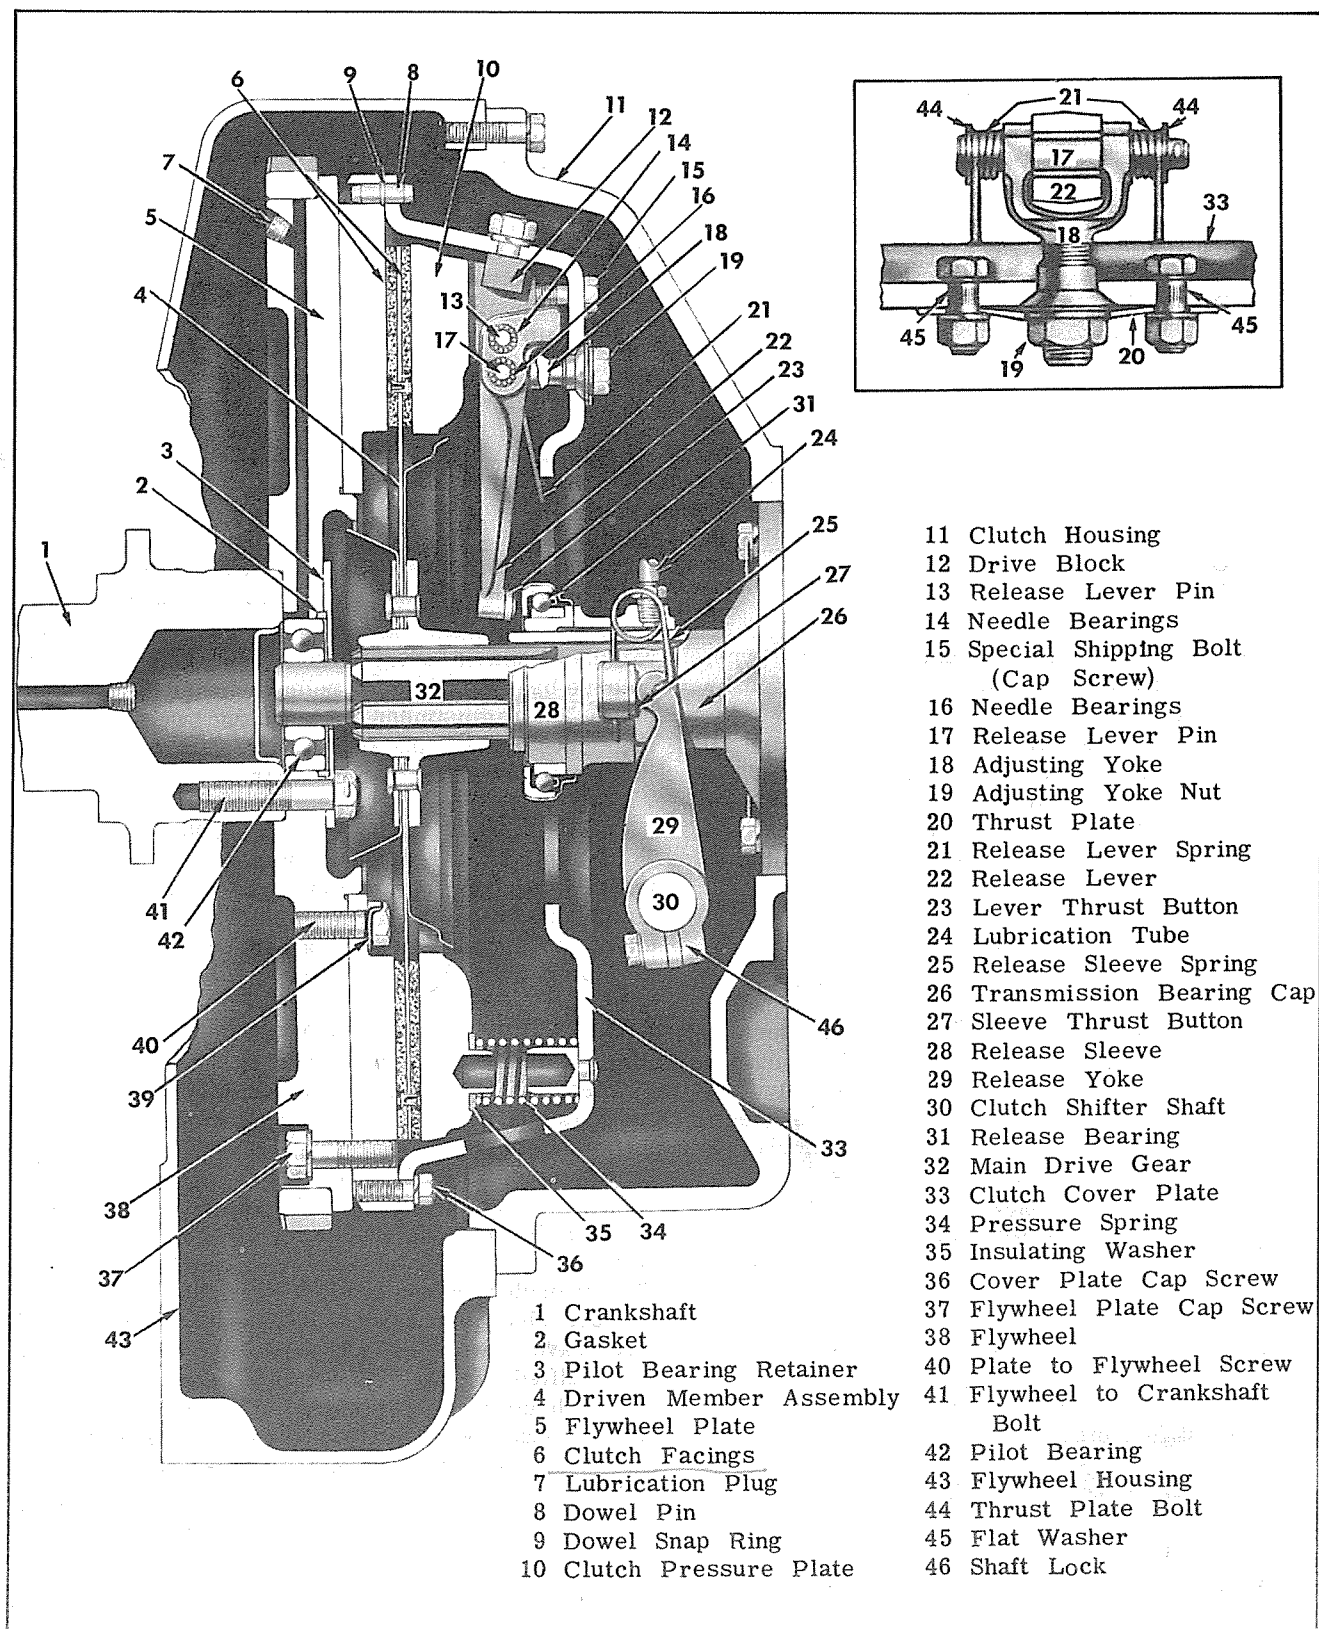
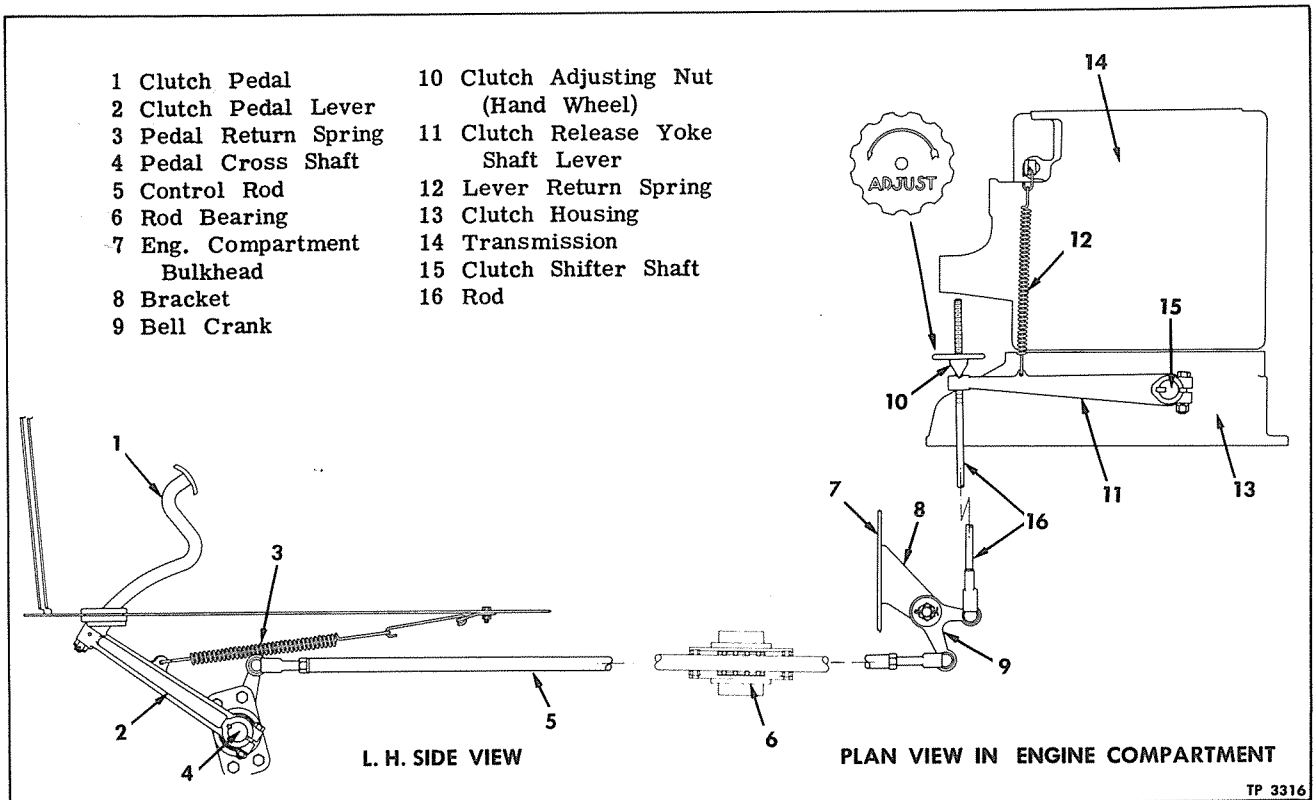

Figure 1—Sectional View of Clutch Assembly
Figure 2—Clutch Control Linkage
Clutch (fig. 1) is single plate dry disc type, manually controlled (disengaged and engaged) by foot-operated pedal and linkage (fig. 2).
(Key Numbers in Text Refer to Fig. 1)
Need of adjustment for pedal free-travel (defined as the first easy movement of clutch pedal) is indicated when pedal free-travel is less than limits listed in "Specifications" at end of this section. Adjustment for pedal free-travel is made at clutch linkage (fig. 2). As clutch facings wear, release levers (22) move toward release bearing (31) reducing clearance between the two. This reduced clearance results in a reduction of pedal free-travel, which if not corrected by resetting to specified limits, will result in excessive wear to clutch facings. Therefore, it is necessary to adjust linkage periodically to provide proper pedal free-travel and assure complete clutch engagement.
1. Turn adjusting nut (hand wheel) (fig. 2) to provide 1-1/2" clutch pedal free-travel before clutch starts to release.
(Key Numbers in Text Refer to Figure 1)
Either the pressure plate (10, fig. 1), or the flywheel clutch plate (5, fig. 1), or both, if scored or checked, can be refaced. Refer to "Specifications" at end of this section for limits. Bear in mind that minimum thickness of each plate depends on whether both plates or only one are to be refaced. In either case grind off only enough metal to provide a new smooth, flat friction surface. If grinding equipment is not available, machine and then polish surface with emery.